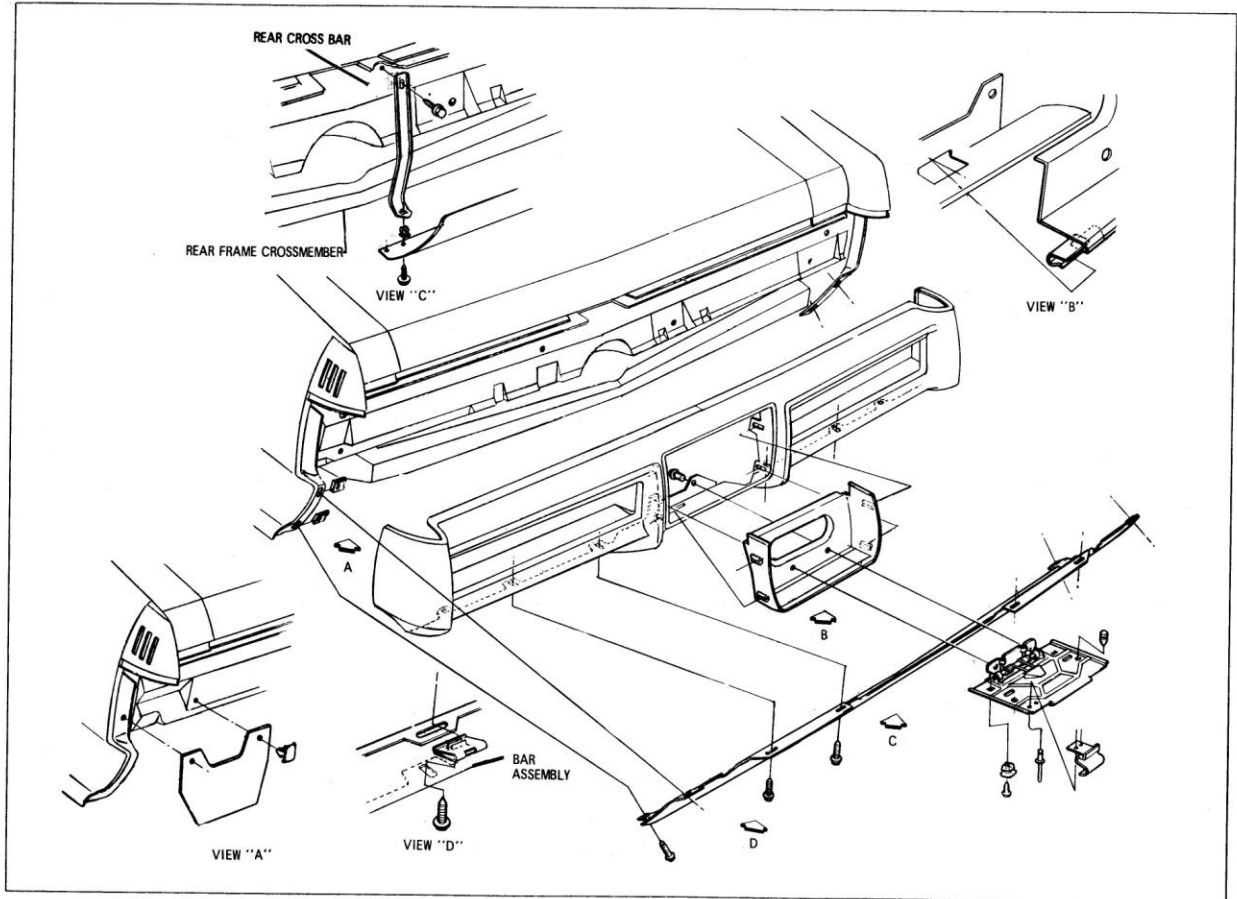

Fig. 14-12 Grand Prix Rear Valance Panel
1. Remove valance panel (Fig. 14-12).